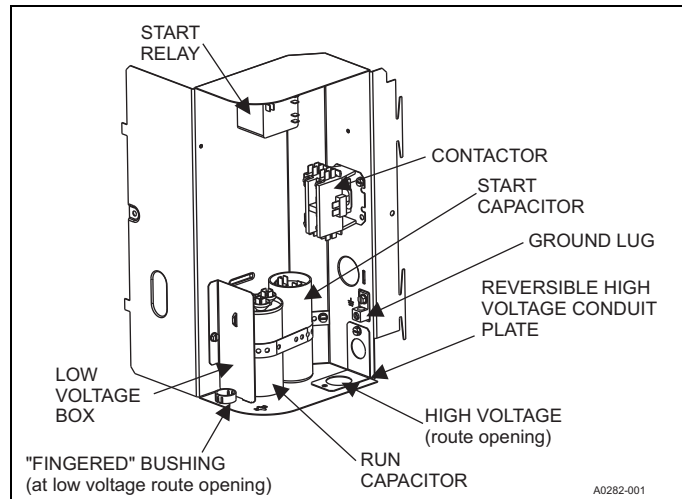

FIGURE 10: 18 BTU
1. Use the pilot hole behind start relay sticker to attach start relay. see Figures 10 & 11.